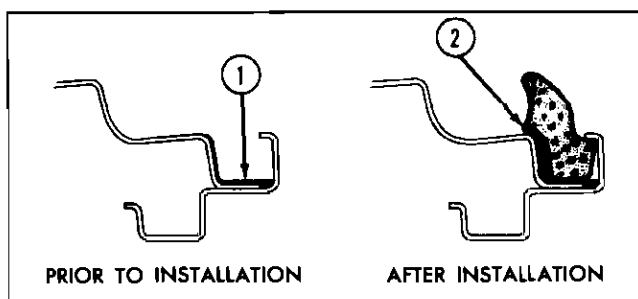

Fig. 4-10 Rear Compartment Weatherstrip
2. Apply a continuous coat of weatherstrip cement (neoprene type) along the lower and outer surfaces of the rear compartment gutter as indicated at 1 in Fig. 4-10 around full length of gutter.
5. Using a pressure type applicator, apply weatherstrip cement (neoprene type) between weatherstrip and outer surface of gutter as indicated at 2 in Fig. 4-10 completely around gutter to assure a watertight seal.